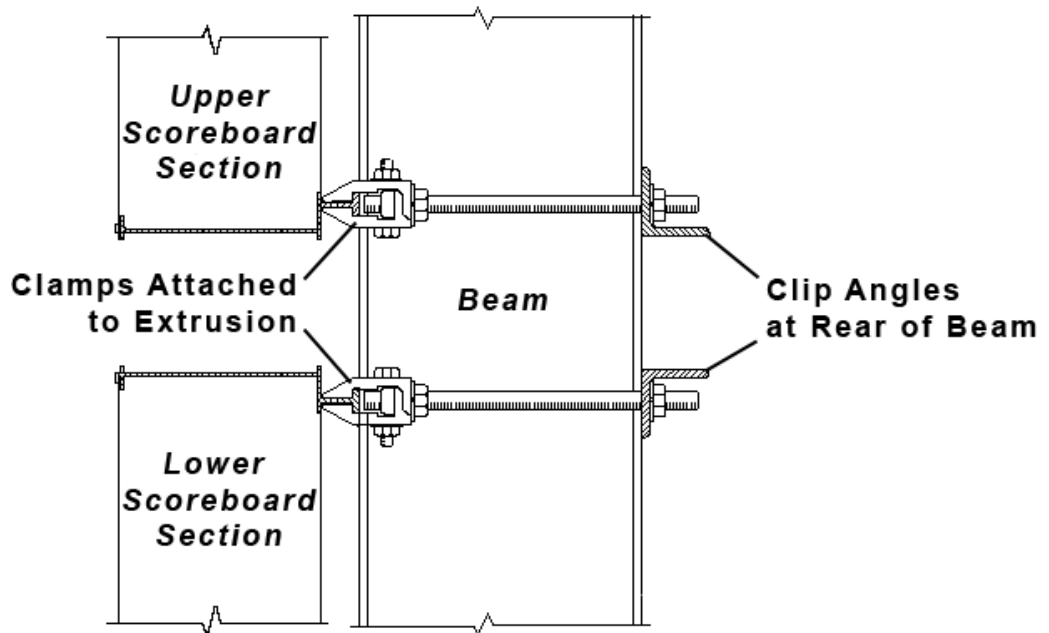

Figure 7: Clamp Mounting Method, Side View
- Make sure that the threaded rods are perpendicular to the scoreboard, and tighten all of the 1/2" hex nuts (**Figure 7**).